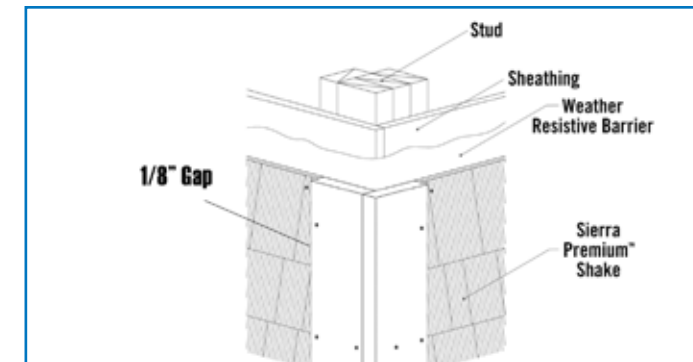

Fig. 8.1
- Where board ends and edges meet trim at inside and outside corners, door, window, and other trim attachments, leave a minimum 1/8” gap and caulk with a quality sealant that meets ASTM C-920 requirements. (Fig. 8.1)